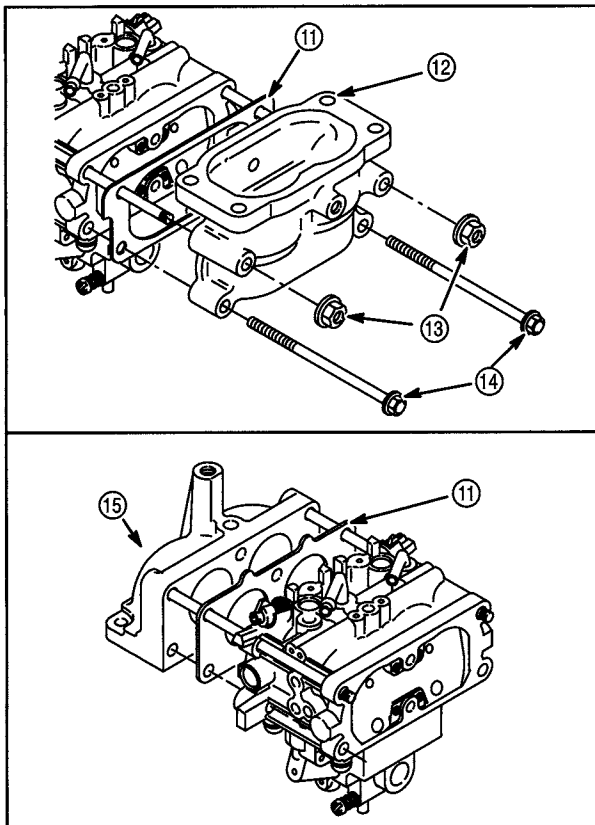

Fig. 20
8. Remove two nuts (13) and two screws (14). Separate air cleaner elbow (12) and intake elbow (15) from carburetor, **Fig. 20**.
9. Discard gaskets (11).